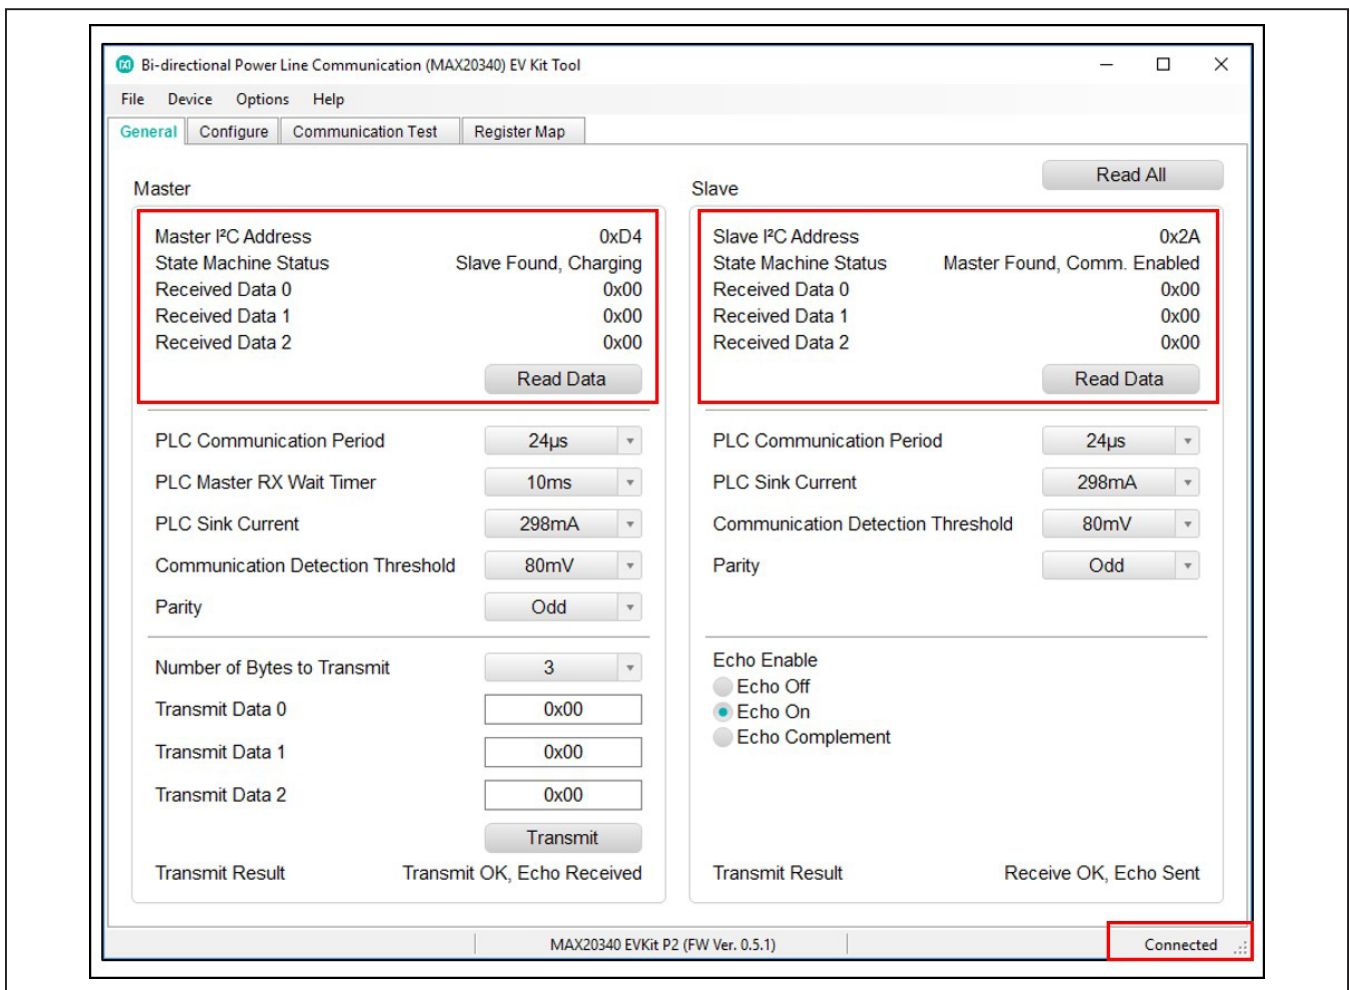

Figure 1. The Status of the GUI Shows Connected Ready for Further Evaluations
- 7) Start the MAX20340 EV kit GUI. The EV kit software main window appears, as shown in Figure 1.